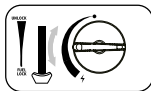

Fig. 5
6. Adjust the control knob to the required position (fig. 5). Never set the cartridge lever (6) to the **"UNLOCK"** position during use!